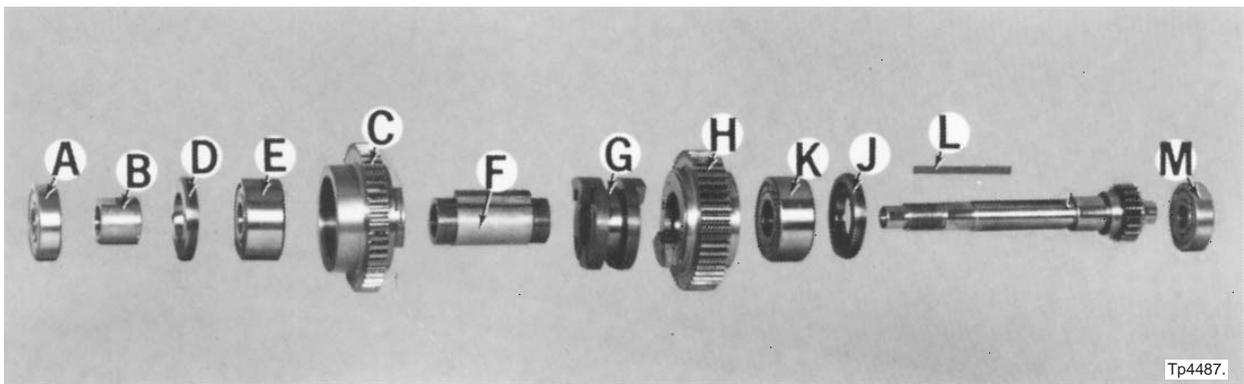

Figure 4.31 - Clutch Shaft Assembly
- a) Press bearing "A", Figure 4.31, off the shaft.
- a) If removed, press bearing “M”, Figure 4.31, onto the shaft.